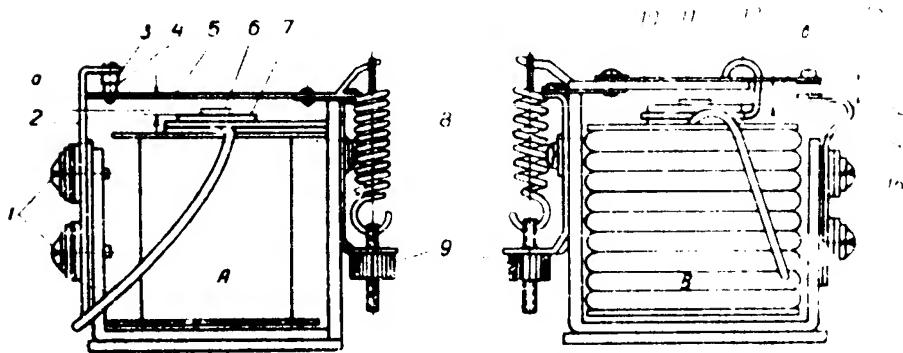

Fig. 39. Checking PP2O Current and Voltage Regulator Clearances
Check the armature to core clearances on the voltage regulator and current limiting regulator (Fig. 39). The clearance should be 1.4 to
1.5 mm with closed contacts. Check the clearance as shown in Fig. 39. To adjust the clearance loosen the screws and move the contact bracket.